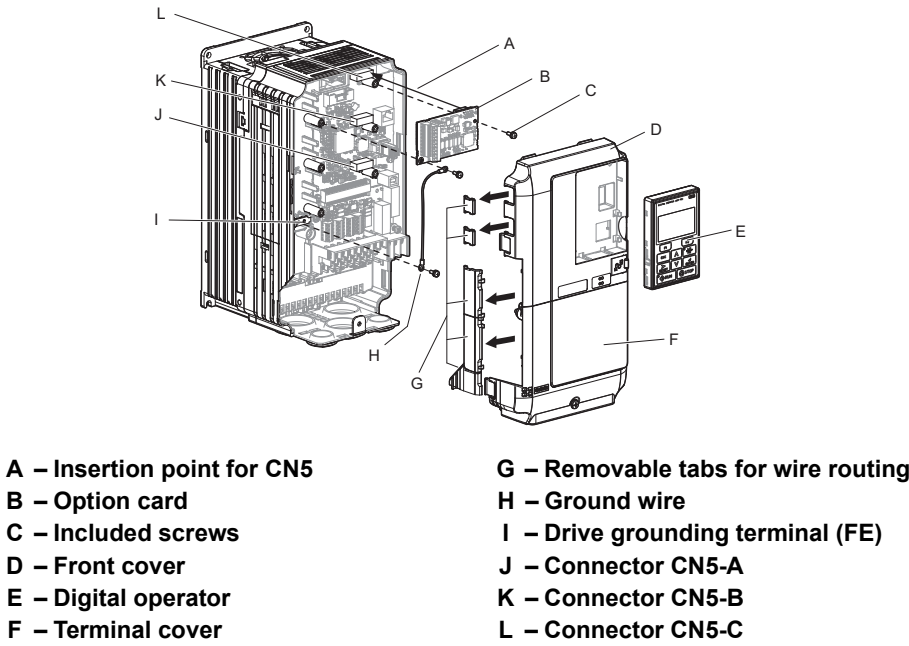

Figure 8.2 Installing an Option Card
*Figure 8.2* shows an exploded view of the drive with the option and related components for reference.